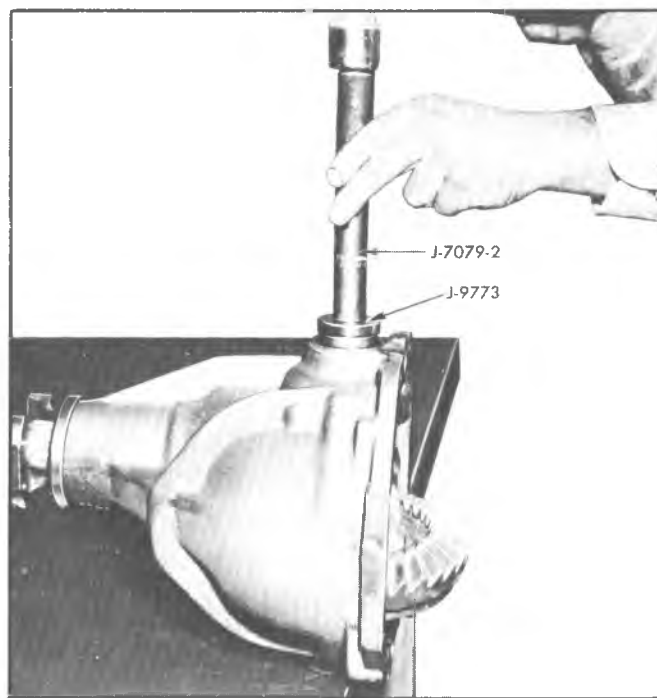

Fig. 6C--Installing Side Gear Yoke Bearings
1. Place new yoke bearings on Installer J-9773 and install bearing into carrier bore using Handle J-7079-2. See figure 6C Drive bearing until it is fully seated.